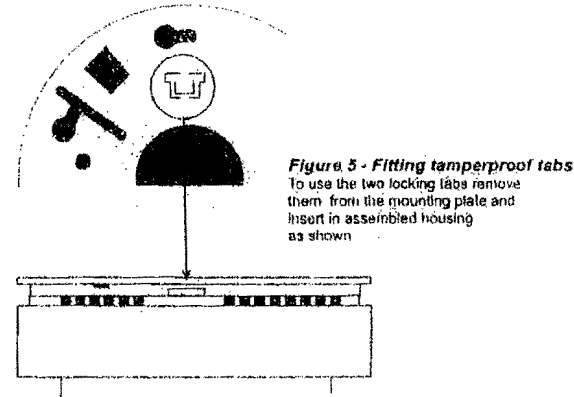

Figure 5 - Fitting tamperproof tabs
- If the detector is to be locked into position the two tamperproof tabs need to be removed from the base plate. Retain until final assembly of detector. See Figure 5
Insert the two tamperproof tabs in the positions provided between the base plate and detector unit. Once fitted the detector can only be removed from the base plate by first removing these tabs by gently prying out with a screw driver. See Figure 5